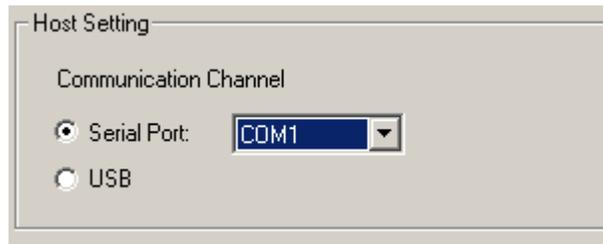

Figure 2-2 Select UART Connection
4. Select the COM port that your PC will use (Figure 2-2).